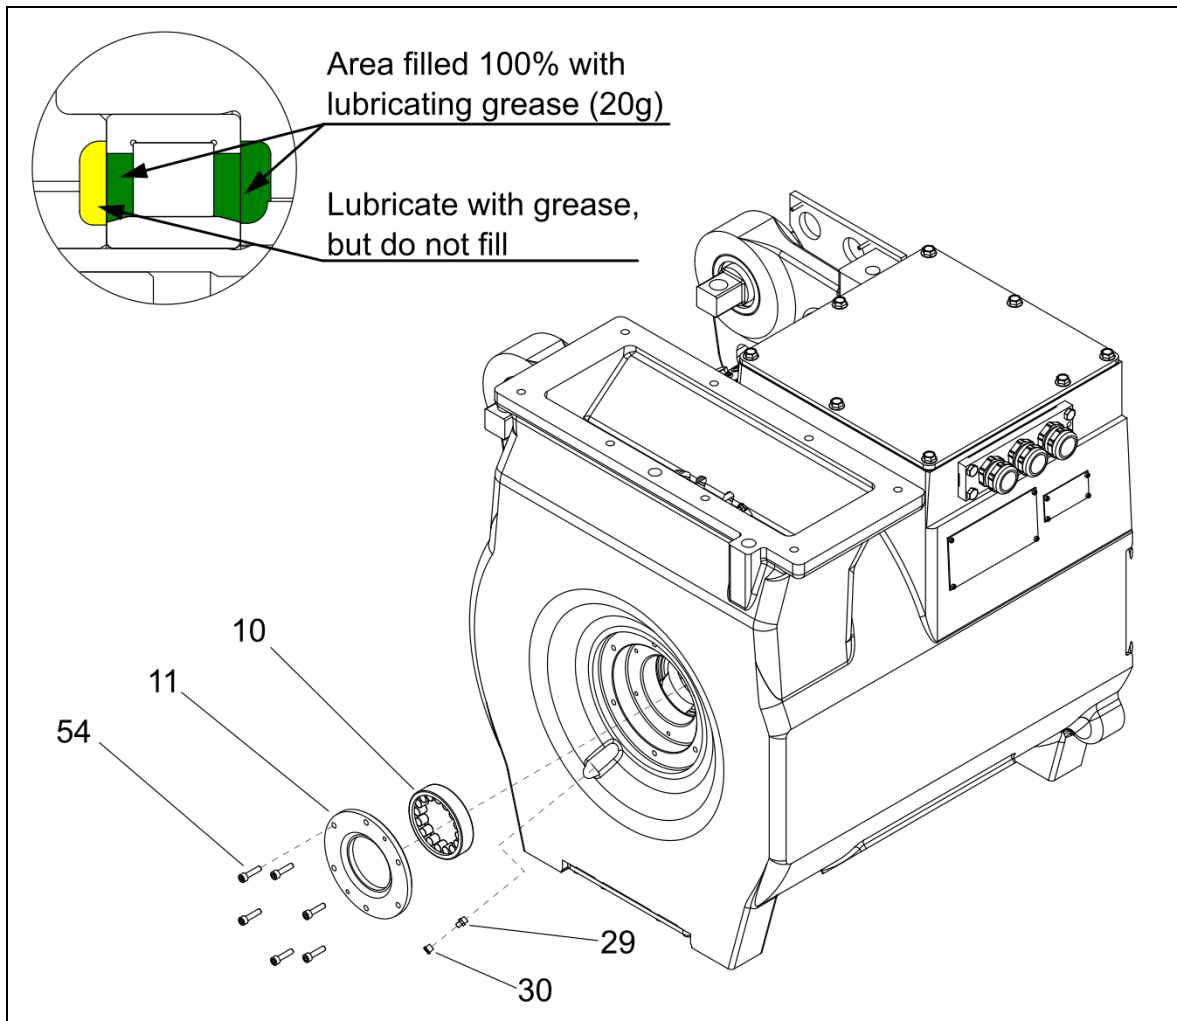

Figure 39: Assembling the NDE side of traction motor
- 2 Press the cylindrical roller bearing (10) outer ring with rolling elements to the stator.
- 3 Attach the lubricating nipple (29).
- 5 Attach the regreasing nipple cap (30).
- 6 Lubricate the bearing according the Figure 39.
- 7 Lubricate and attach the bearing cover NDE (11).
- 8 Apply some thread locker to threads of six hexagon socket screws (54).
- 9 Fasten the bearing cover NDE (11) with hexagon socket screws (54).